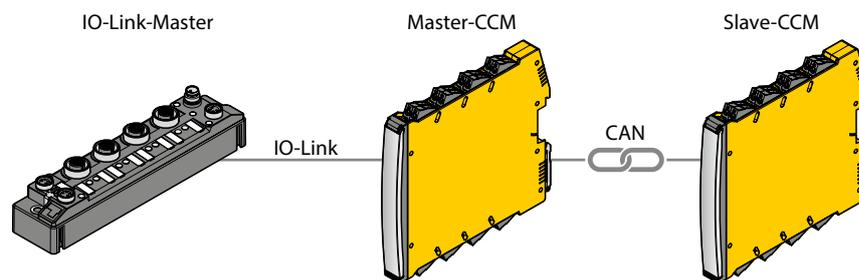

Fig.4: Master-slave communication (schematic layout)
- Secure the device to the DIN rail as shown in Fig. 4.